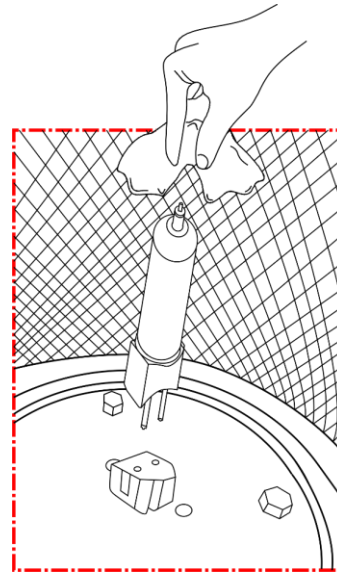

Fig. 07
- 06) Remove the lamp from the box and hold it **by the base**. Read the lamp instructions. **Do not touch the lamp bulb glass**. Oil on hands shortens the lamp's lifespan. If you touch the bulb glass, wipe it off with a clean, lint free towel and rubbing alcohol. Insert the lamp (Fig.07).